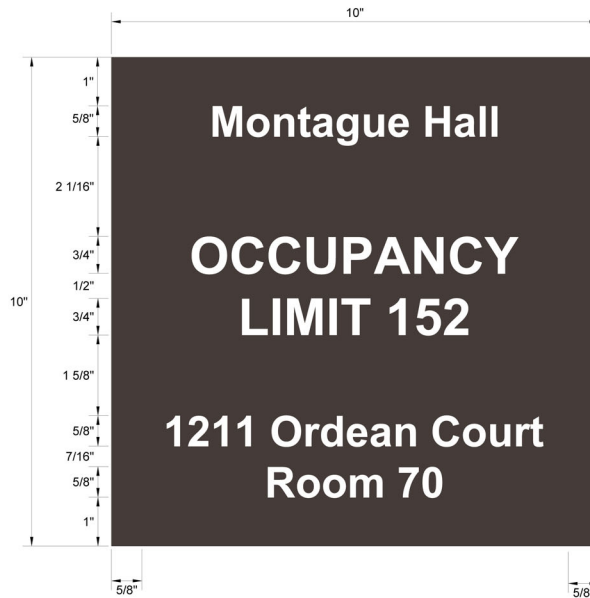

Figure 28.7
- 28.7. UMD H6 sign elevation shall comply with figure 28.7.